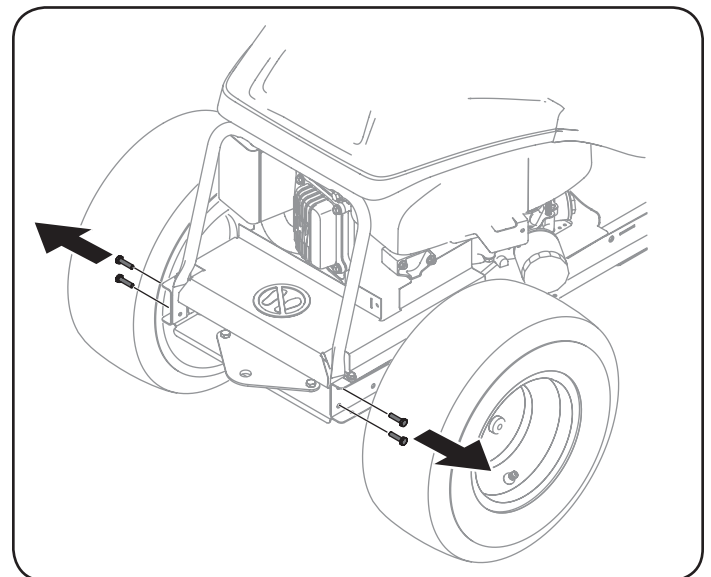

Figure 3
1. Remove, and discard, the four self-tap bolts on the rear frame of the tractor, as shown in Figure 3.